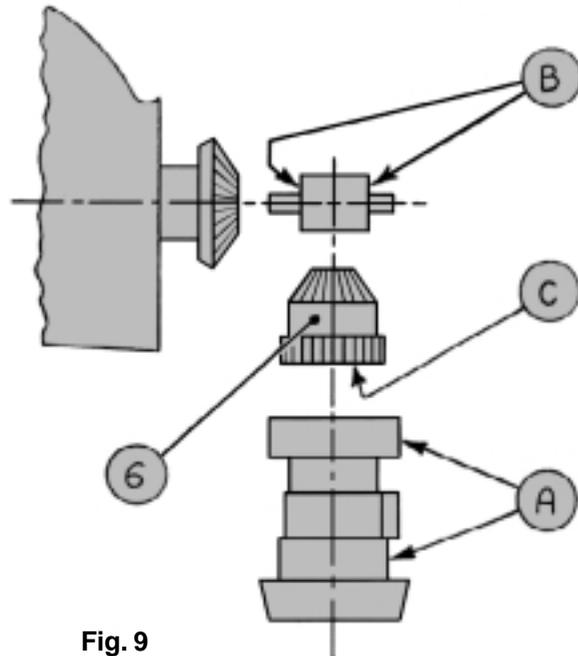

Fig. 9
- B) Sometimes it can happen that a small piece of metal or burr enters among the gears, or a piece of the propeller has been dinged; in this case the blade movement can become hard. It is necessary then to do as follows, referring to figure 9.
- 1) Open the propeller and assemble it again after having taken the central cone gear (6) out, so that the blade and the hub rotation are independent. If the hub rotation is hard, remove 0.01 mm from surfaces "A" with an emery cloth. On the contrary if the blades rotation is hard, remove 0.01 mm from surfaces "B" of the spacer using emery cloth wrapped around a flat file. Try until both hub and blades rotate freely.
- 2) Again mount the central cone gear (6) and reassemble the propeller. If the propeller rotation still has some hard points remove 0.1 mm with a flat file from surface (C) so that central cone gear sits lower and the clearance between conical gears increases.